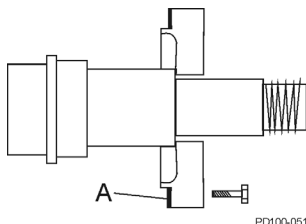

Figure 41 - Remove Sealant from Retainer
3. Remove the silicone sealant (Figure 41, item A) from the bearing retainer and gear case.